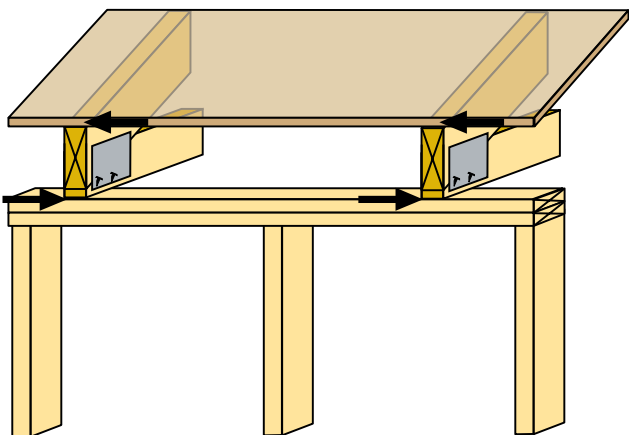

FIGURE B8-7
**Note:** Trusses are intended to carry Loads applied parallel to their plane (i.e., depth) and not perpendicular to it. The lateral Load transfer through the Truss as depicted in Figure B8-7 occurs unless Blocking or some other means is provided that will transfer this Load directly between the roof sheathing and top plate of the wall.